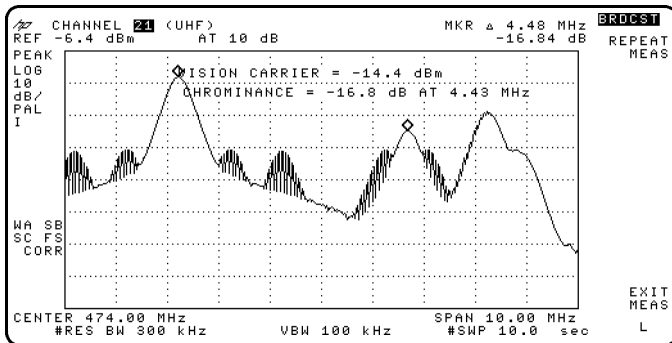

Figure 2-9. Chroma Level Measurement
3. The peak vision carrier level and the vision-to-chroma level ratio is displayed as shown in Figure 2-9.